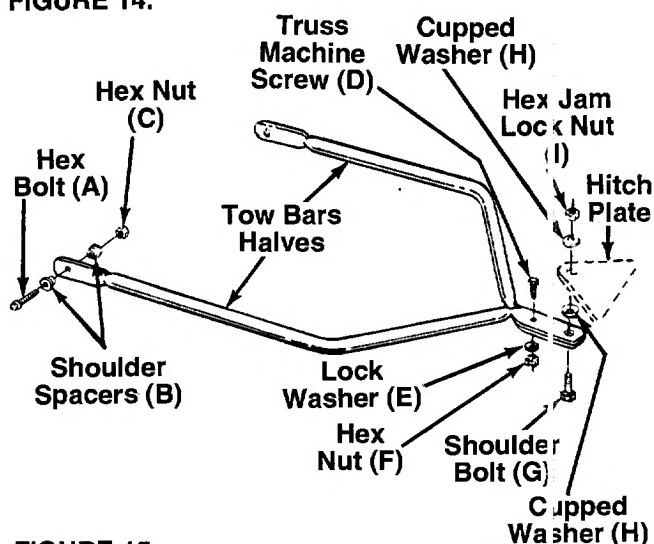

FIGURE 15.
2. Place one bar half in position on frame of vacuum. Place one shoulder spacer (B) between frame and tow bar. Next, place shoulder spacer (B) and hex bolt (A) through tow bar and frame. Secure with hex nut (C). See figure 15. Repeat on other side.
3. Secure the two tow bar ends together with truss machine screw (D), lock washer (E) and hex nut (F). See figure 15.
To attach the tow bar to a hitch, place the shoulder bolt (G) up through the tow bar. Place one cupped washer (H) on the shoulder bolt, then the hitch plate and the other cupped washer. Cupped side of the washers must be against the hitch plate. Secure with hex jam lock nut (I). See figure 15.